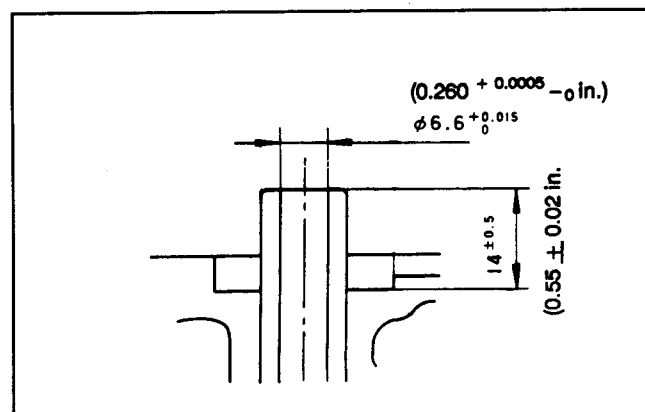

Figure 64
3. To install the new valve guide press it in from the top of the cylinder head, using the valve guide mandrel. Install the valve guide so the installed height is 13.5 - 14.5 mm (0.531 - 0.571 in.) above the cylinder head (Fig. 64).
3. Make sure the valve guides are properly installed (Fig. 64).